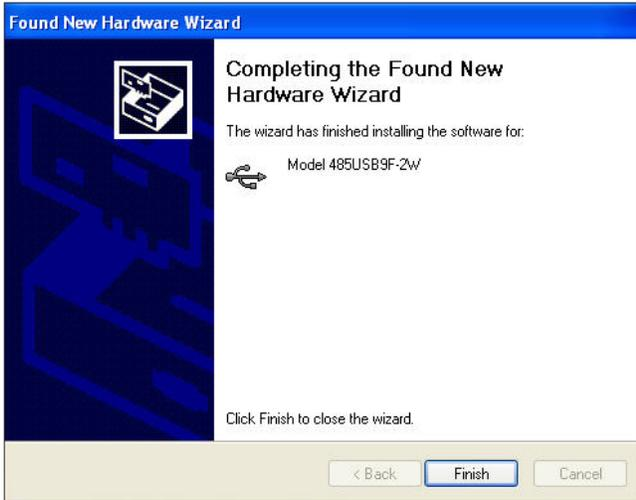

Figure 5—Completed Driver Installation
- When installation is complete, a confirmation window will appear (Figure 5). Click *Finish* to complete this stage of the installation.